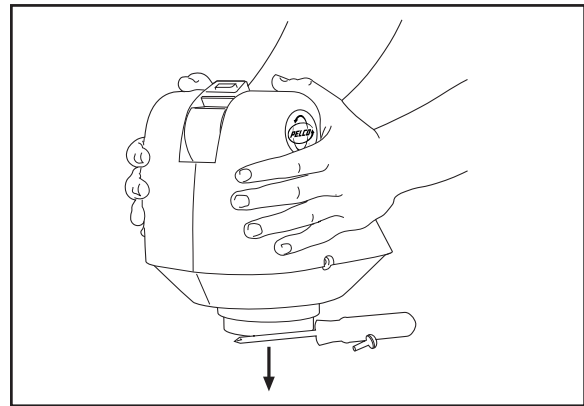

Figure 8. Securing the Cover Halves
- c. When the cover halves are together, press downward, as shown in Figure 8, to force the covers into their latches.